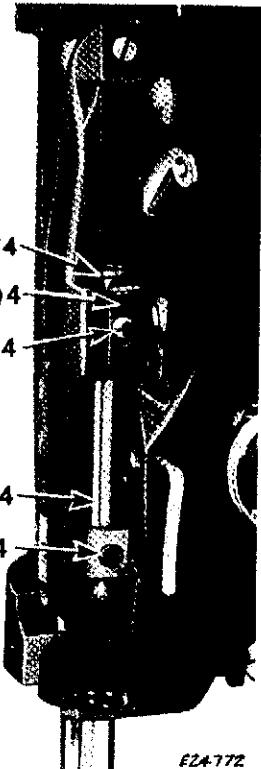

Fig. 66. Upper Timing Mark on Needle Bar
To adjust the height of the needle bar, loosen set screw **V4**, **Fig. 66** and raise or lower needle bar **U4**, as required. Then securely tighten screw **V4**.
Check the setting of the needle bar height indicator **Q4**, **Fig. 66** and reset, if necessary, as instructed on page 42.
5. Loosen set screw **V4**, **Fig. 66**.
9. Then loosen screw **R4**, **Fig. 66** to reset needle bar height indicator. Move indicator **Q4** up or down until it corresponds with upper timing mark **T4**. Securely tighten screw **R4**.